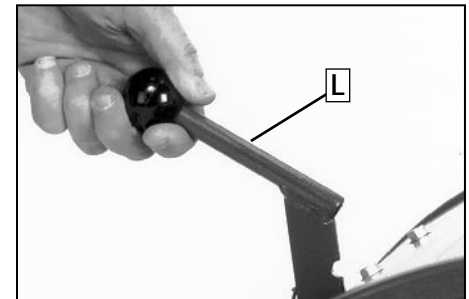

Figure 2-8: Put lever in second notch.
1. With the tiller on level ground, pull the Depth Regulator Lever (L, Figure 2-8) back and then slide it to the second notch from the top. NOTE: If the lever does not move, lift the tine hood flap and look for a plastic tie securing the lever in place. Cut and remove the tie.
2. With the unit on level ground, move the Depth Regulator Lever (L, Figure 2-8) up or down until the engine is level.